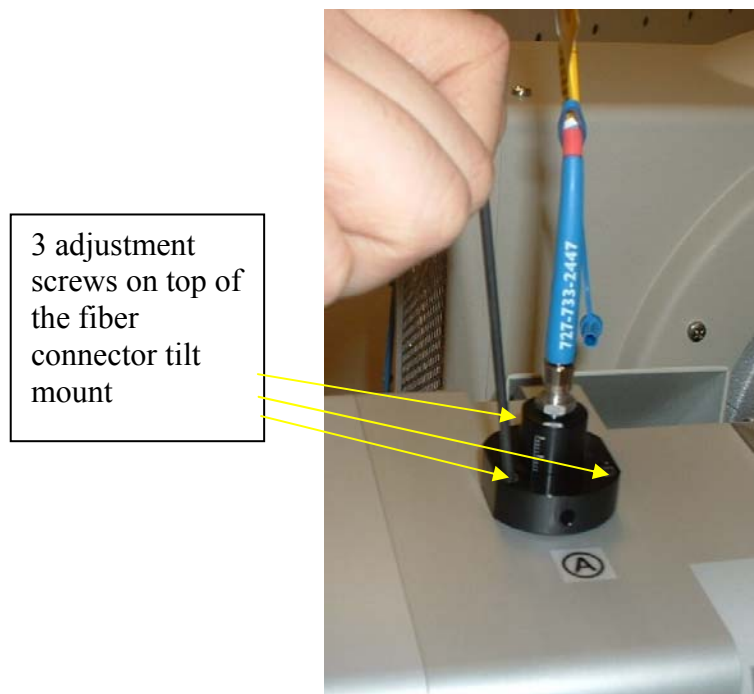

Fig. 8-6. Adjustment of the Laser position by tightening/loosening screws on the fiber connector tilt mount.
Step 3. Continue with the same spot. Switch ON the laser at maximum power (minimum attenuation). Using a hexagonal screwdriver, turn the three screws (see Fig. 8-6).
Now you can set the best laser energy, appropriate for your matrix, shift the target to a new fresh spot and prove that the sensitivity is better. Alternatively, the position of the laser focal spot can be adjusted by a rotation of tuning screws (Fig. 8-6) based on the quality of the MS signal by a trial-and-error method.